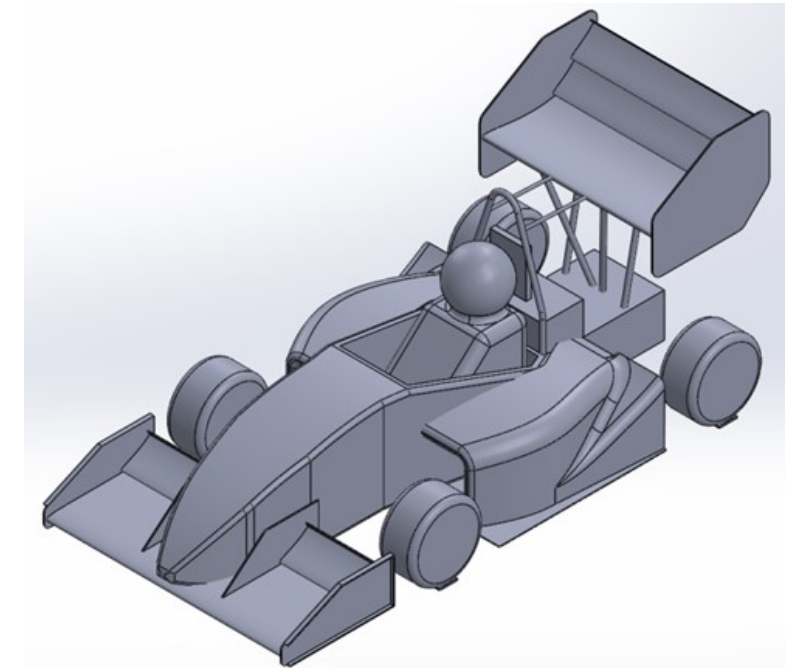

Figure 4—Simulation 3D model with Aerodynamic Package
**Aerodynamic Model—** Figure 4